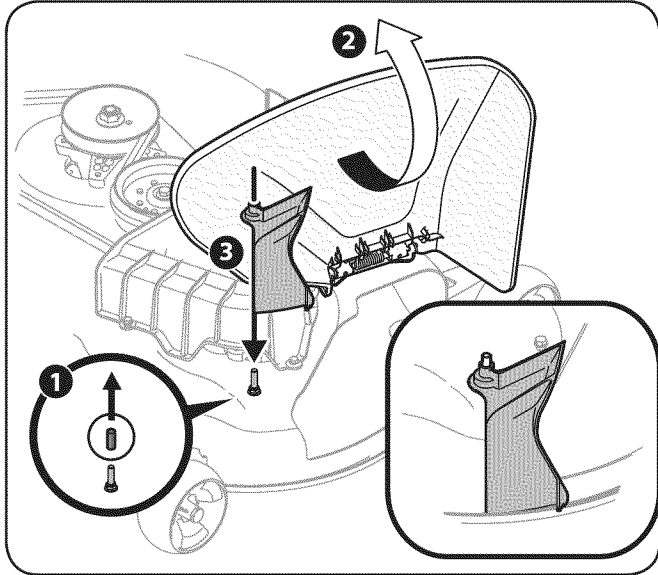

Figure 18
2. Remove the deck pin rubber protective cap, 1 in Figure 18.
3. Raise the chute deflector (2 in Figure 18) on the deck and hold it while you install the (731-10133) chute adapter(3), included in hardware pack 689-00341, onto the deck as shown in Figure 18.